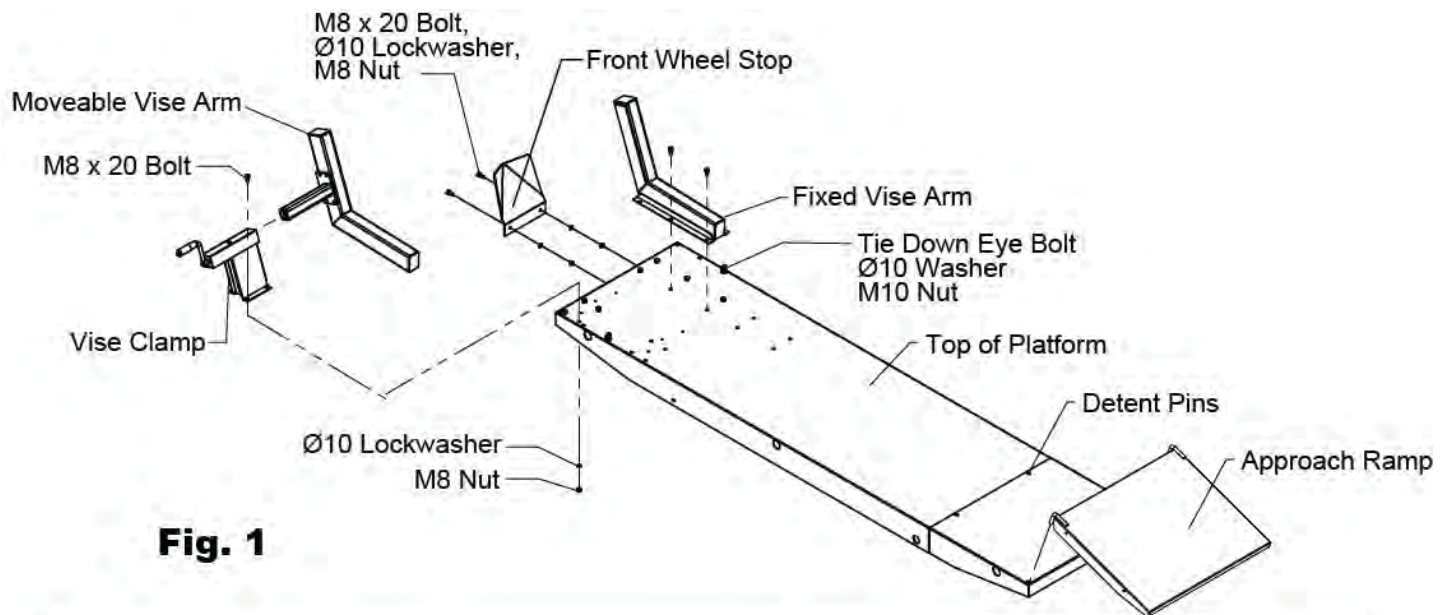

Fig. 1
- STEP 6.** To install the vise refer to Fig. 1:
a. Install the vise clamp using (4) M8 x 20 bolts, lockwashers, and nuts.
c. Install the fixed vise arm using (6) M8 x 20 bolts, lockwashers, and nuts.
- STEP 7.** Install wheel stop as shown in Fig. 1 using M8 x 20 bolts, lockwashers, and nuts.
- STEP 8.** Install tie down eyelets as shown in Fig. 1 using M10 eyebolts, washers, and nuts.